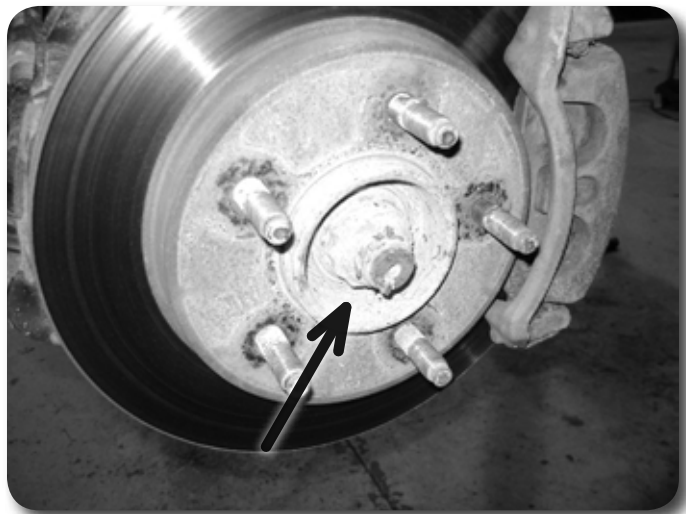

Figure 7
18. Remove the front axle shaft cotter pin, axle nut retainer and axle nut. **Figure 7** Save hardware. Strike the end of the axle shaft with a rubber mallet to break it free from the hub.